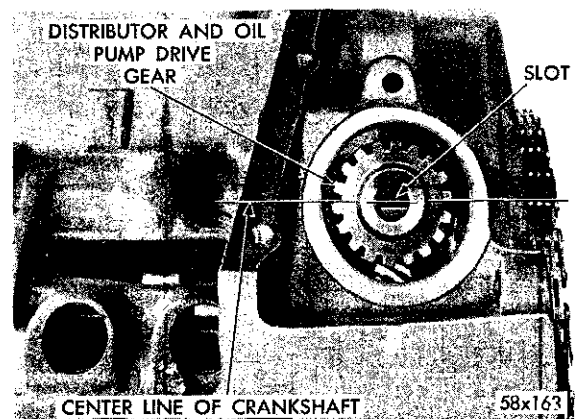

Fig. 34—Distributor Drive Gear Installed
- (2) When in this position, the straight line on the vibration damper should be under "O" on the timing indicator.
- (3) Coat the shaft and drive gear with engine oil. Install the shaft so that after the gear spirals into place, it will index with the oil pump shaft, so that the slot in top of the drive gear will be parallel with the center line of the crankshaft, as shown in Figure 34.